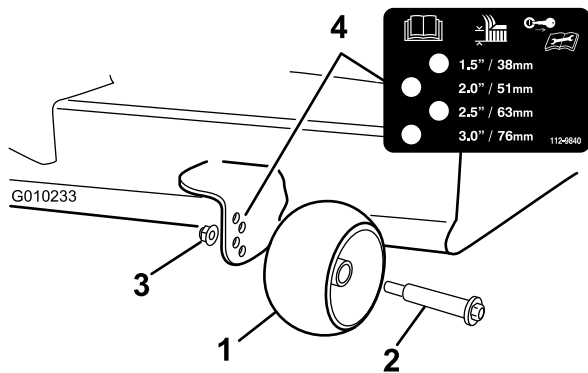

Figure 21
3. Adjust the anti-scalp rollers as shown in Figure 21 to match the closest height-of-cut position.